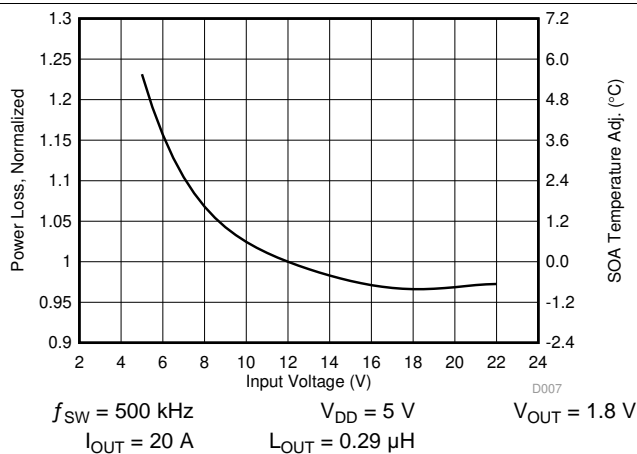

Figure 7. Normalized Power Loss vs Input Voltage
- Normalized power loss for input voltage \approx 1.1 (Figure 7)
- SOA adjustment for input voltage \approx 2.5°C (Figure 7)